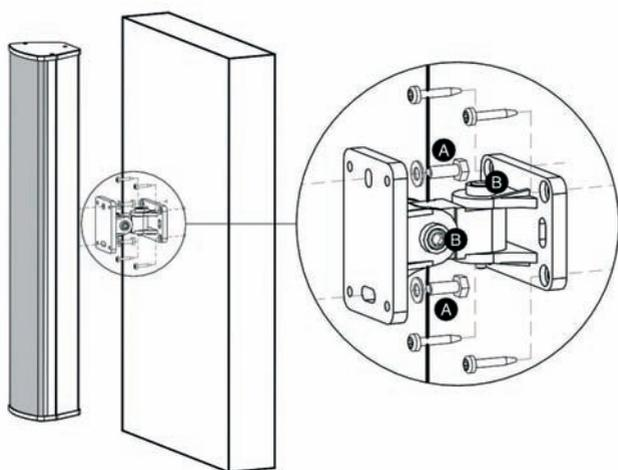

Fig. 1 - Wall installation
The speaker can be used both in closed spaces and outdoors. The hinge support provided with the speaker can be used for installing it on the wall (Fig. 1).
1. Attach the hinge support to the preselected structure (e.g. wall) as shown in Figure 1.
2. Using the two screws with washer **A** (Fig. 1) provided, attach the speaker to the hinge support: screw the two screws A into the two nuts located inside the groove on the back of the speaker. The nuts must run in the groove so that the speaker can be positioned as desired. When this has been accomplished, tighten screws **A** definitively.
- Using the two hinges **(B)** (Fig. 1) of the support, orient the speaker in the desired direction and use the special Allen wrench to tighten the two nuts.